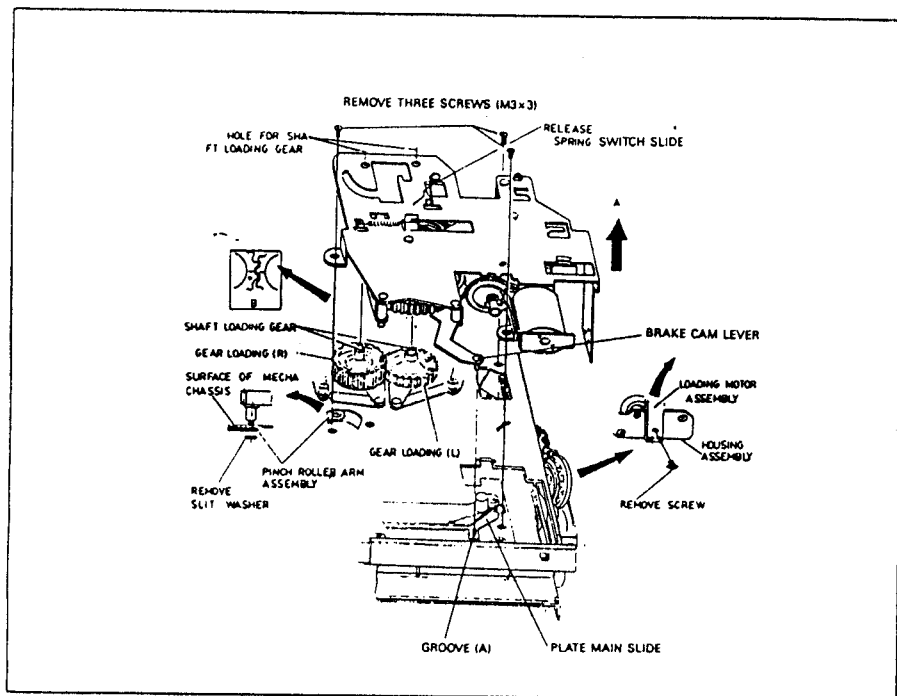

Fig. 26 Loading Motor Assembly Removal
2-2-8. Loading Motor Assembly Removal (Fig. 26)
4. Remove the loading motor assembly (See Fig. 26)